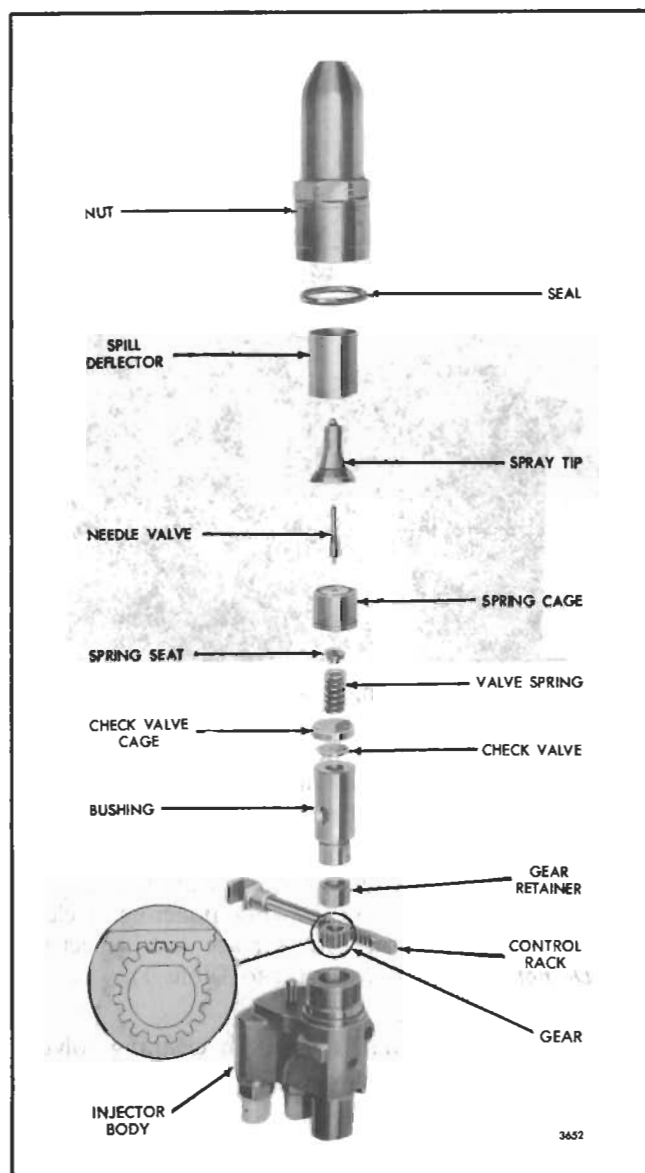

Fig. 37 - Injector Rack, Gear, Spray Tip and Valve Assembly Details and Relative Location of Parts
6. Refer to Fig. 37 and remove the spill deflector. Then lift the bushing straight out of the injector body.
Refer to Fig. 37 and note the drill spot marks on the control rack and gear. Then proceed as follows:
2. Place the gear in the injector body so that the marked tooth is engaged between the two marked teeth on the rack (Fig. 37).
Refer to Fig. 37 and assemble the parts as follows: